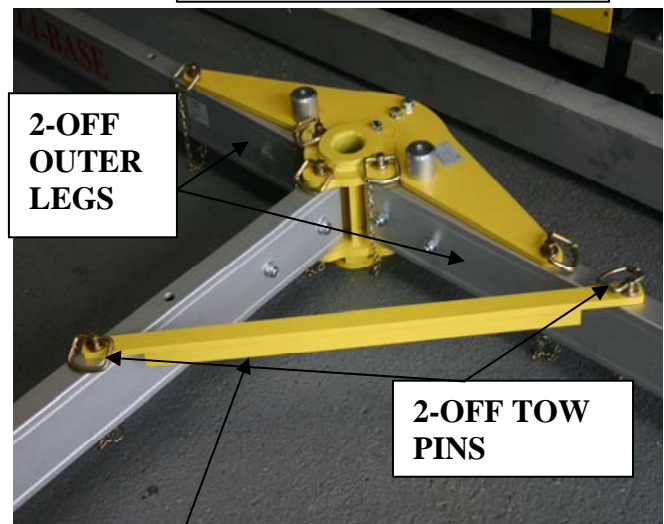

Fig. 9
3. Fix the position of 2-off outer legs by inserting 2-off tow pins through top fixing plate end (see Fig. 9) and secure tow pins with linch pins.
4. Position 1-off Leg Brace by inserting 2-off tow pins (pin position on centre leg as shown in Fig. 9) secure with linch pins.